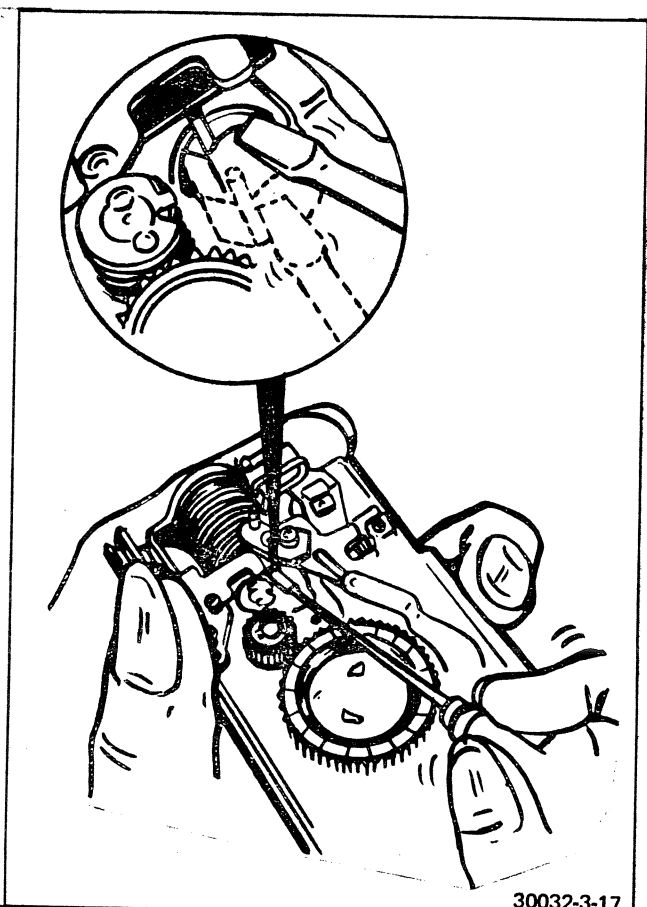

FIGURE 3-17 MANUALLY SEATING SOLENOID 1 PLUNGER
4. Connect the VOM (in the low-ohms range) TP-16 (S4B) and TP-18 (S4C). Using a small jeweler's screwdriver, manually seat the solenoid plunger (Figure 3-17). The meter should indicate zero (continuity). Repeat the check at TP-8 Sol 1 S4C and TP-31 (S4B).